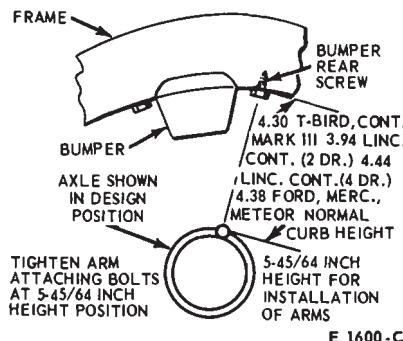

FIG. 9—Axe Normal Curb Height and Controlled Height for Arm Installation
19. Make sure that both the front and rear pivot bolts of the upper and the two lower arms are loose, then raise the axle assembly to the controlled height (Fig. 9). Hold the axle at the controlled height by placing blocks or pieces of steel pipe between the axle housing and the bumper rear screw on the side rail.